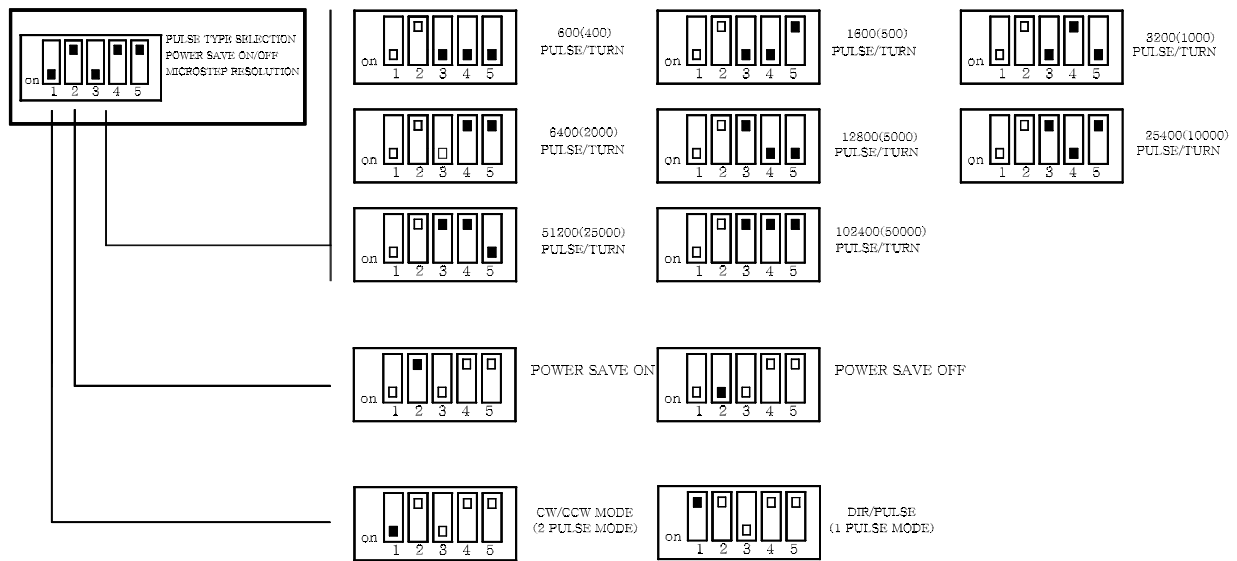

Fig.6 Mode selection switch
- For a standard 1.8° step motor there are 8 selectable resolutions that range from 800 to 102400 pulses (decimal type : 400 – 50000 pulses) per revolution. Refer to the following Fig.6 and determine the resolution best meets your need and set switches as indicated.